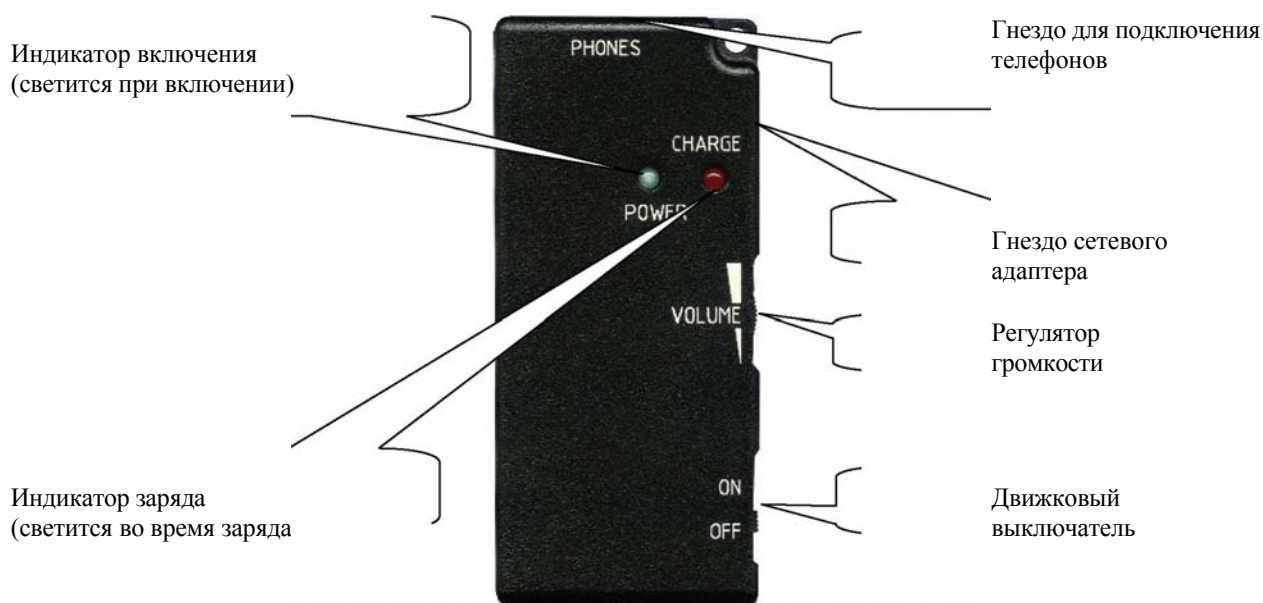

Fig. 5
**4.4.** On the **side** surface of the control panel (see 1 in Fig. 5) a slide-type power switch is placed. A slide position corresponding to «ON» is marked by a contrast point.
**4.7.** Wireless telephones consist of a receiving device and earphones. Appearance of a receiving device and position of control units are shown in Fig.5